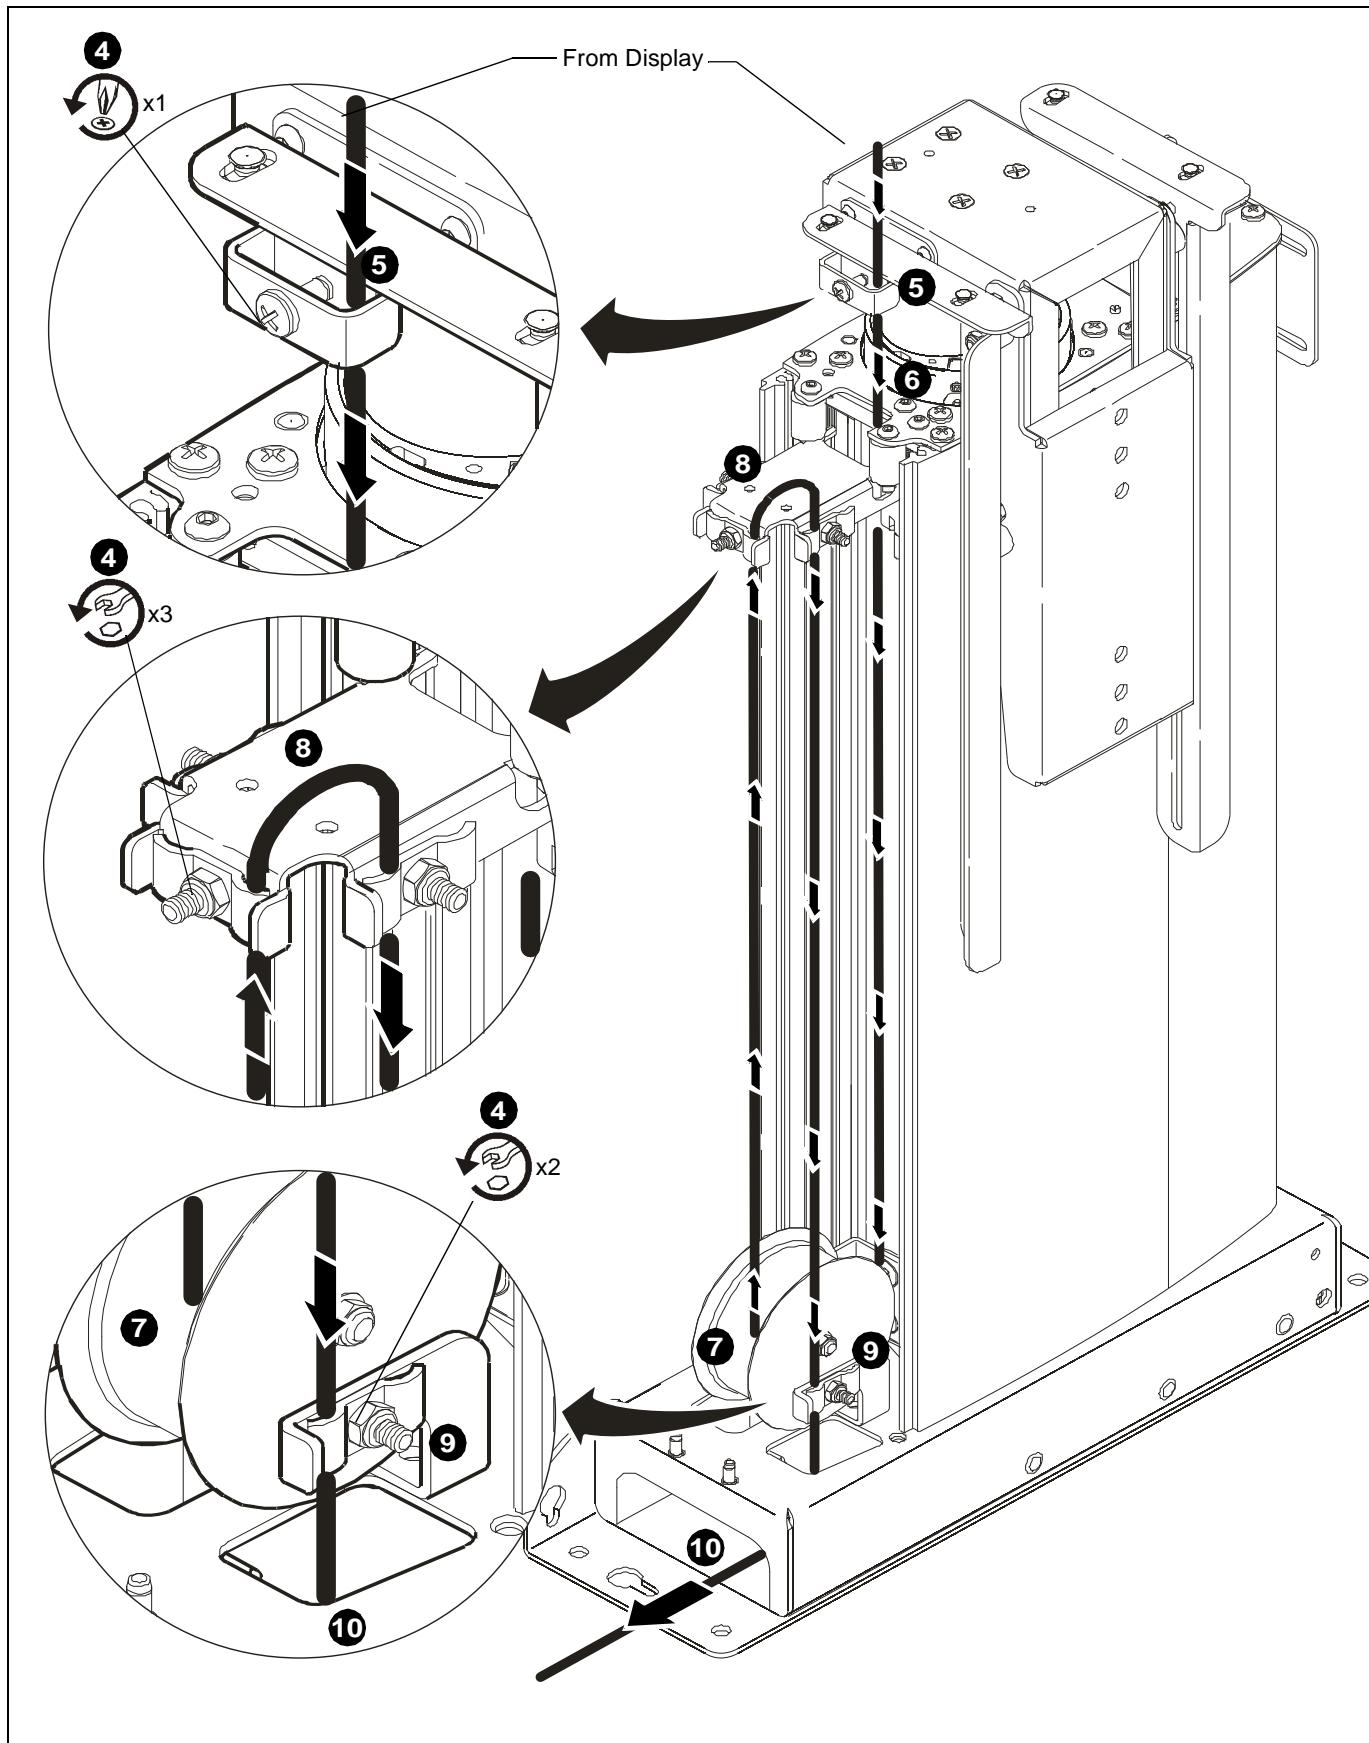
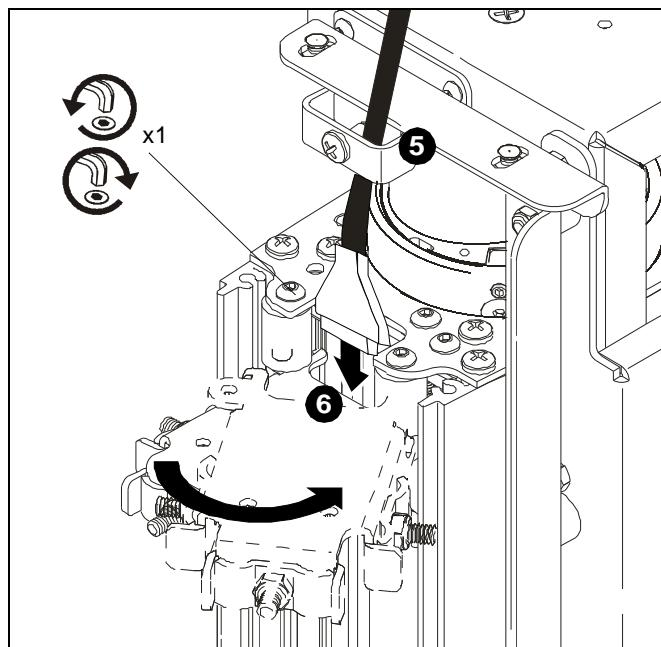

Figure 10
Figure 11
4. Loosen six cable clamps. (See figure 10)
5. Route cable(s) down through upper cable clamp. (See figure 10) and (See figure 11)
- Route cable(s) down through opening at rear of middle cable clamp mounting bracket. (See figure 10) and (See figure 11)
CAUTION: Bracket mounting hardware MUST be reinstalled and tightened before continuing with cable installation. (See figure 11)
- Route cable under cable pulley and up through front cable clamp on middle cable clamp mounting bracket. (See figure 10)
- Loop cable and route cable down through side cable clamp(s) on middle cable clamp mounting bracket. (See figure 10)
CAUTION: Cables must not extend higher than 1" (25mm) above cable mounting bracket when looped! (See figure 10)
- Route cable(s) down through lower cable clamp(s). (See figure 10)
- Route cable through cable access opening in top of mount base and cable access opening in side of mount base. (See figure 10)
- Starting at upper cable clamp and working downward, remove slack from all cables and tighten remaining cable clamps. (See figure 10)